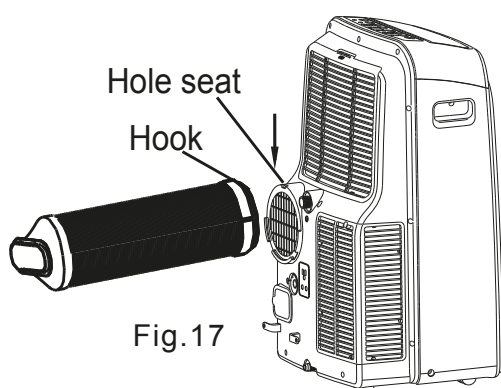

Fig.17
- 2 Insert the hook of the Exhaust hose into the hole seat of the air outlet and slide down the Exhaust hose along the arrow direction (See Fig. 17) for installation.